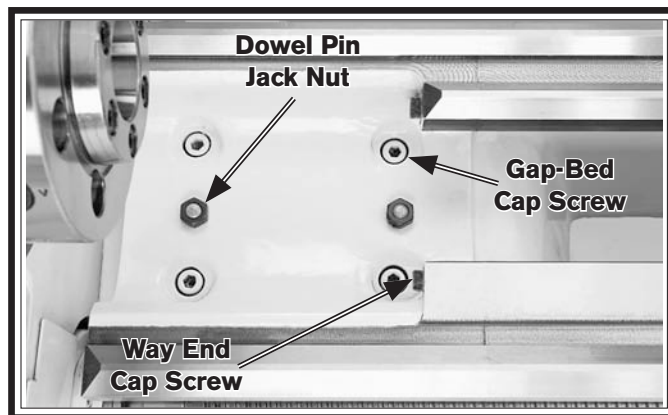

Figure 139. Fasteners holding gap in place.
1. Remove the four gap-bed cap screws, shown in **Figure 139**.